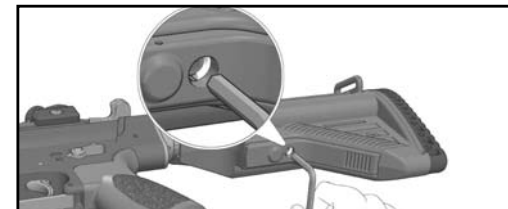

Fig. 35 – Buttstock Tightening Screw
- b. Check to ensure that the buttstock tightening screw is loose before attempting to remove the buttstock. If tight, insert the large tip (3mm hex) of the MR762A1 Disassembly Tool into the tightening screw and rotate (but do not completely remove) counter clockwise (Fig. 35). For cleaning and general maintenance purposes, it is not necessary to remove the buttstock.